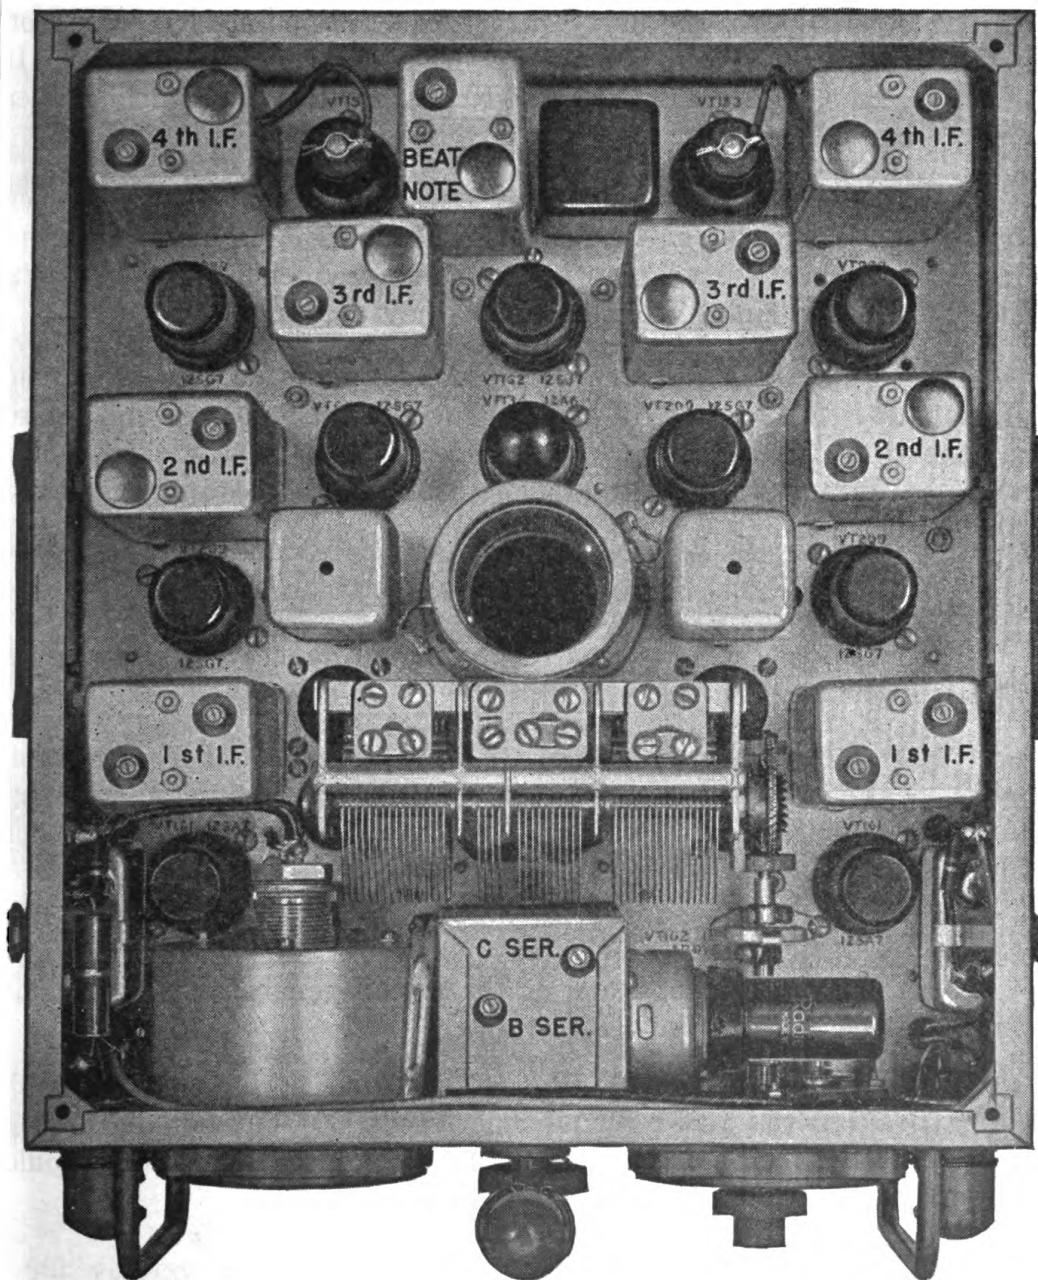

FIGURE 36. Radio Receiver BC-1003-B, B and C series, and i-f trimmer location.
(e) Trim the 4th i-f transformer (fig. 36) in each channel for maximum pointer deflection. Push in the **PRESS TO BALANCE** control and turn it as far as possible in a clockwise (to the right) and counterclockwise (to the left) direction. The pointer intersection should swing to the right and to the left about the same amount. If it doesn't, then interchange the 3d i-f tubes, or try substituting other tubes in one of the channels until matched tubes are found.
(b) Repeat steps (c), (d), (e), (f) and (g) under paragraph 28c(1), peaking the 3d i-f transformers (fig. 36) but not disturbing the 4th i-f transformers. The signal generator output should be about 3500 microvolts.
(b) Repeat steps (c), (d), (e), (f) and (g) under paragraph 28c(1), peaking the 2d i-f transformers (fig. 36) but not disturbing the 3d or 4th i-f transformers. The signal generator output should be approximately 60 microvolts.
(e) Set the tuning dial of the receiver and the signal generator to 450 kc. The output of the signal generator should be approximately 10 microvolts. Adjust **C SER.** trimmer (fig. 36) for maximum pointer deflection.
- (d) Set tuning dial of the receiver and signal generator to 200 kc. The output of signal generator should be about 10 microvolts. Adjust **B SER.** trimmer (fig. 36) for maximum pointer deflection.